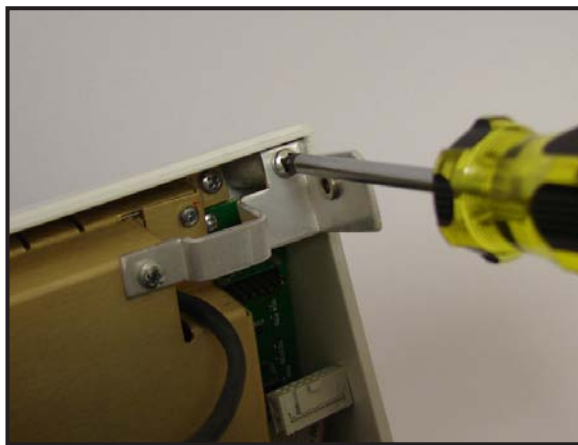
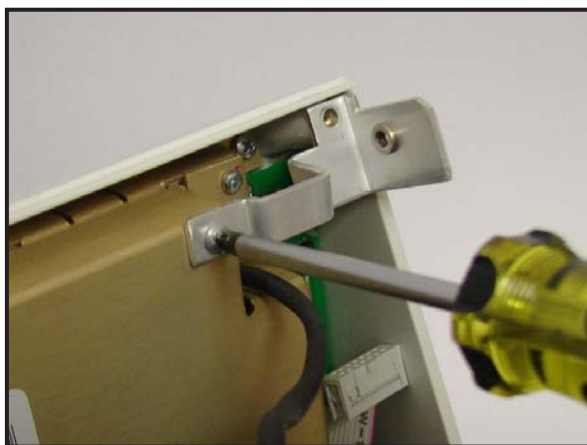

Figure 6-18
Figure 6-19
10. Use a Phillips screw driver to remove the screw that attach display mounting bracket to the front bezel (See Figure 6-18) and then remove the screw that attach the bracket to the display assembly (See Figure 6-19) to remove the bracket.
- b. Use a Phillips screw driver to remove the screw that attach display mounting bracket to the front bezel (See Figure 6-18) and then remove the screw that attach the bracket to the display assembly (See Figure 6-19) to remove the bracket.